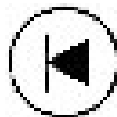

Figure 5-2 Center of Gravity Symbol
6. Using a hoist, lift the unit from the shipping container by the mast tube at the labeled center of gravity symbol (Figure 5-2) position. Lifting from locations other than those indicated could result in equipment damage. Use two point contact for slings to keep the load stable while moving.